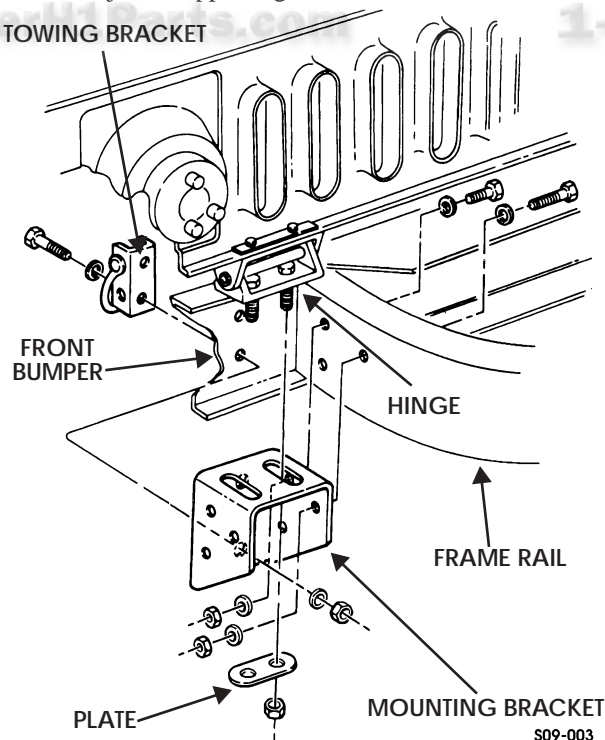

Figure 9-15: Front Bumper Mounting Bracket
2. Remove three locknuts, washers, capscrews, and washers securing mounting bracket to frame rail. Discard locknuts (Figure 9-15).
1. Install mounting bracket and towing bracket on front bumper with two washers, capscrews, washers, and locknuts. Do not tighten locknuts (Figure 9-15).